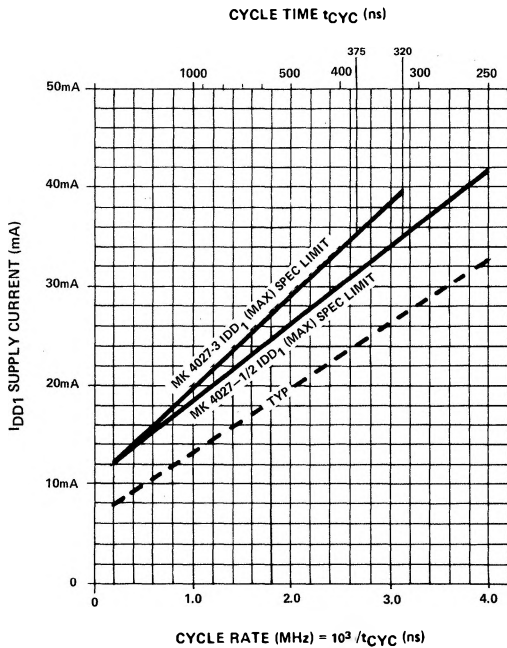

Figure 1. Maximum I_{DD1} versus cycle rate for device operation at extended frequencies.
- Current is proportional to cycle rate. $I_{DD1}(\max)$ is measured at the cycle rate specified by $t_{RC}(\min)$. See figure 1 for I_{DD1} limits at other cycle rates.